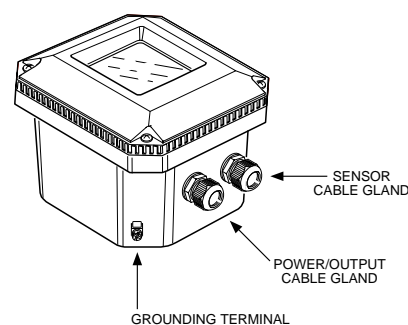

Figure 3-6. Glands to be used for cabling
4. Pass the sensor cable through the rightmost gland (see Fig. 3-6)